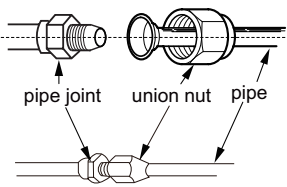

Fig.5
2. Aim the pipe joint at the corresponding bellmouth. (As show in Fig.5)